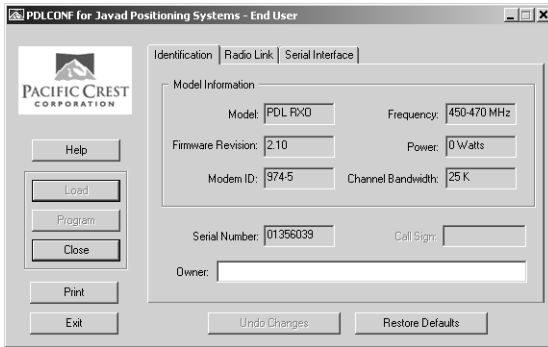

Figure 2-30. PDL Identification Tab
9. On the Identification tab, type Owner information (Figure 2-30).